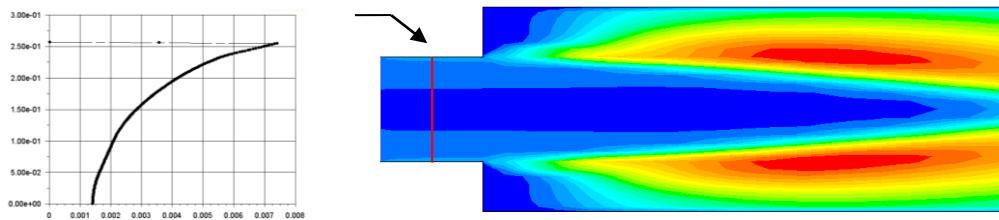

Fig. 1 The vertical and horizontal line segments at $x=-0.0381$ and $r=0.07271$. One has to compare the numerical results with experiment along these lines.
18. Compare the numerical results with experimental data (included in the folder *exper-data*) along the vertical line $x=-0.0381$ and along the horizontal line $r=0.07271$. Fig. 1 shows both vertical and horizontal lines. The sections $x=-0.0381$ and $r=0.07271$ are already defined in the *.cas file so there is no necessity to generate them again. Use **Results/Plots/XYPlot, Load File** to load the experimental data (description of the experimental data is given below, section 'Description of the experimental data').